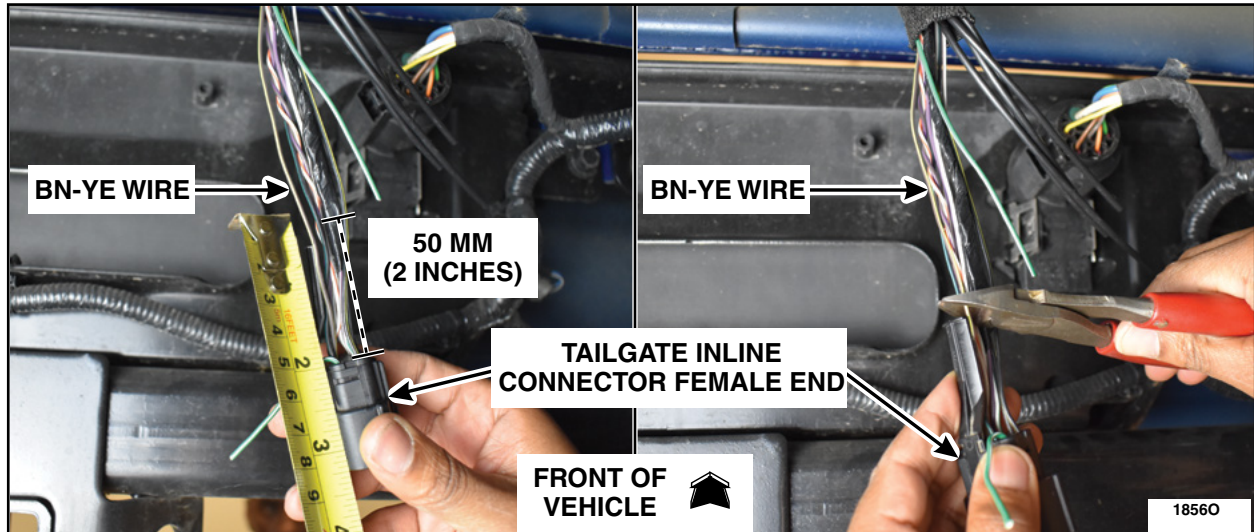

FIGURE 70
16. Measure 50 mm (2 in) from the back side of the tailgate inline connector female end and cut the BN-YE wire (16 pin connector: cavity 8 OR 12 pin connector: cavity 12). See Figure 70.